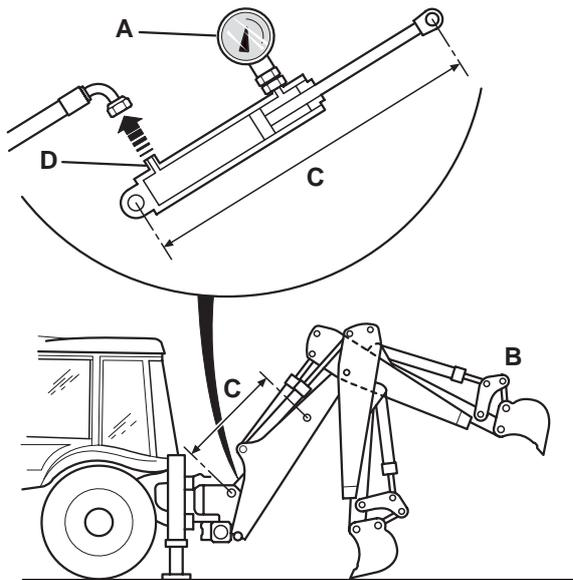

Fig 132.
- 3 Use a suitable pressure gauge **A** to blank off the supporting port of the ram, ⇒ Fig 132. \(□ E-150\).